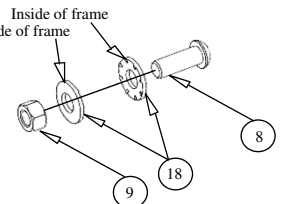

Figure 1d
7. Fasten the frame brackets to the vehicle frame rails as shown in Figure 1 (additional spacers are included to fill excessive gap between frame brackets and the vehicle frame rails, use as required on certain models). On 2007 "New Body Style" Pickups with OE Brake Controller, refer to installation step 2 to relocate the plug with the angle bracket. Use the 3/4" X 2.0 bolt to attach the angle bracket to the inside of the frame (see Figure 1c). Use the 3/4" pull wire to pull the bolt and washer into the frame. Push the wire through the hole in the side of the frame and over the tube welded through the frame. Bring it out the open end of the frame. Screw bolt on to wire and place the washer over the wire but not under the bolt head. The washer will need to lay flat going in over the tube in the frame. For ease of installation, some 1500 models with a box frame may need alternate parts on the rear mounting holes only. Refer to (Figure 1d) on page 1.